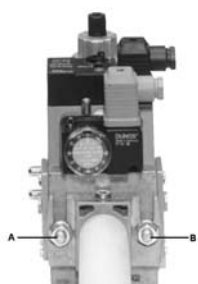
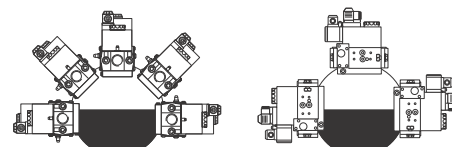

Fig. 17
Fig. 20
3. tighten screws A, B, C and D (Fig. 17 - Fig. 18), according to the mounting positions (Fig. 20);